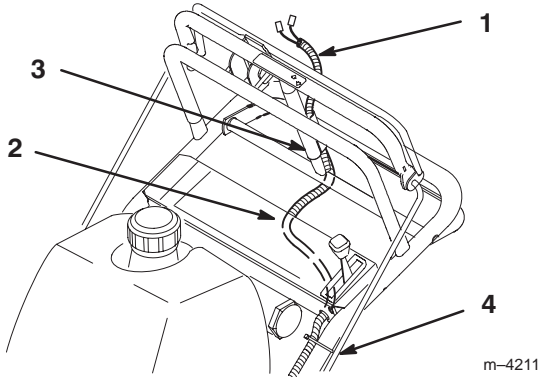

Figure 21
1. Compress wire harness covering and press into lower and upper holes in rear of control panel (Fig. 21).
2. Thread harness up through rear tube of traction handle (Fig. 21).
5. Secure wire harness and throttle cable to left handle, away from PTO lever, with wire tie (Fig. 21).